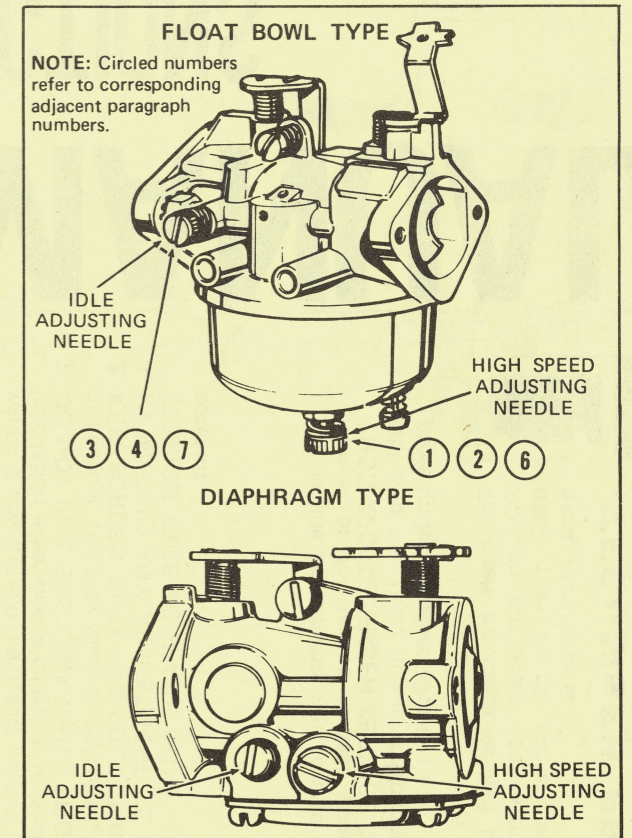

Figure 7
1. Close "high speed adjusting needle" **FINGER TIGHT ONLY** by turning clockwise. Do not force as this will damage carburetor internal seat. (Fig. 7)
3. Close "idle adjusting needle" **FINGER TIGHT ONLY** by turning clockwise. Do not force as this will damage carburetor internal seat. (Figure 7)